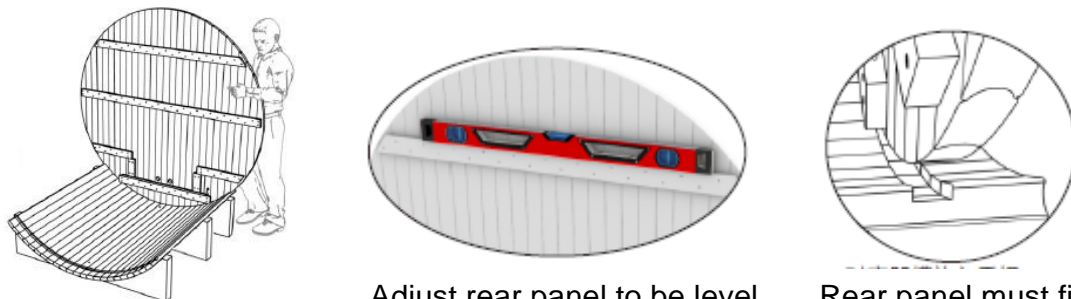

figure 5b
- B. Two people will need to lift the rear panel up and into the groove on the staves. Make sure the rear wall is positioned at where the rear of the barrel sauna will be and align the slots to accept the rear panel placement. One person will need to hold the rear panel in place to prevent it from falling. Use the leveler to position the rear panel vertically and horizontally straight. See figure 5b.